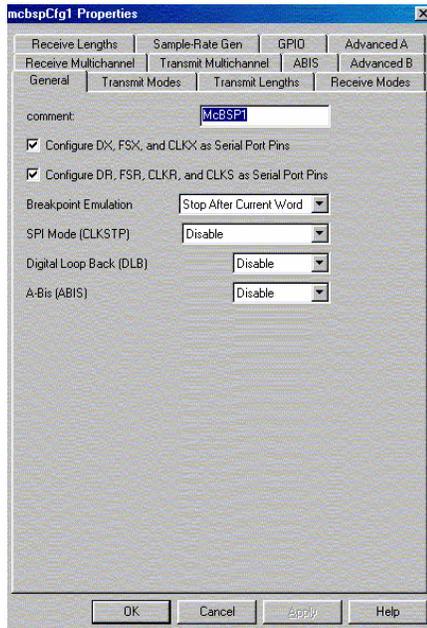

Figure 8. McBSP General Tab
3. In the *General* tab, select options as shown in Figure 8. Configure McBSP as a DSP serial port.